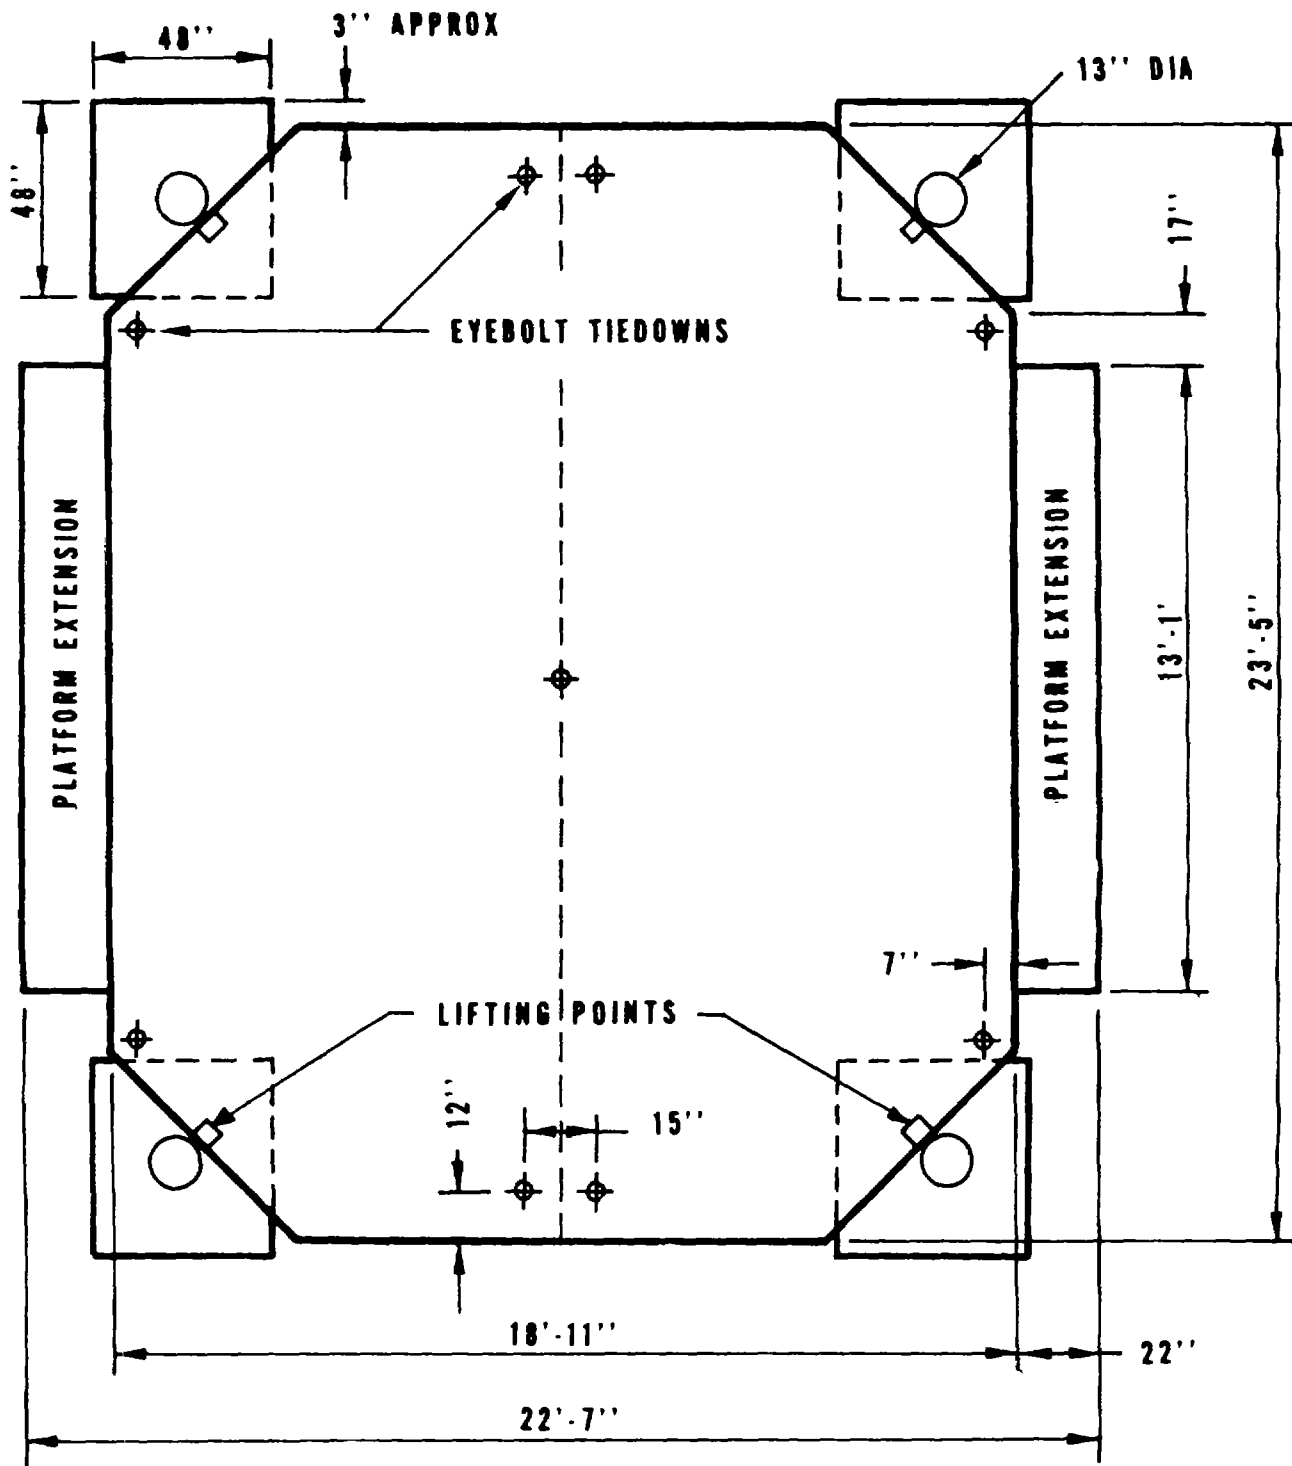

Figure 1. Dimensioned sketch of the artillery-firing platform, M6.
(1) Operate helicopter-associated equipment.
(2) Inspect the helicopter for serviceability appropriate to the mission, and comply with pertinent aviation directives and maintenance manuals.
(3) Establish air /ground communications with transported unit.
a. The firing platform (figs. 1 and 2) is an aluminum, adjustable-height platform designed as a support for firing the 105-mm, M102 howitzer in marshy or rice paddy areas.